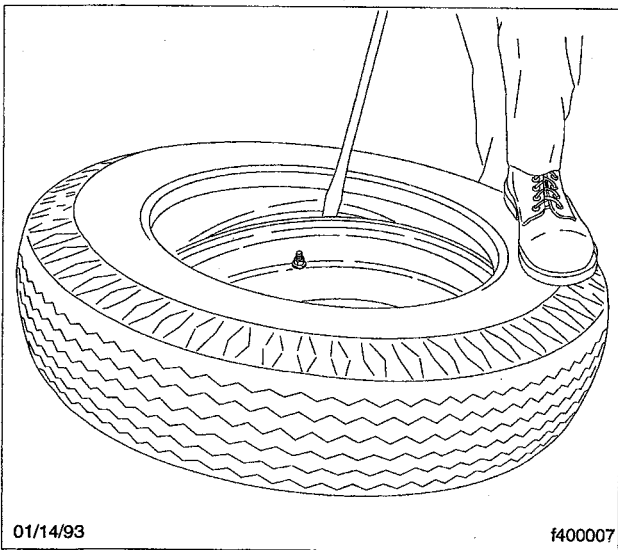

Fig. 6, Work the Bead into the Rim
- 6.3 Lay the tire on the rim. If there is a balance mark on the tire, line up this mark with the valve stem. Push the lower bead over the flange and into the rim well. Using the straight end of the tire tool (with the stop resting on the rim flange), proceed in small increments to work the remaining section of the bead into the rim. See Fig. 6.